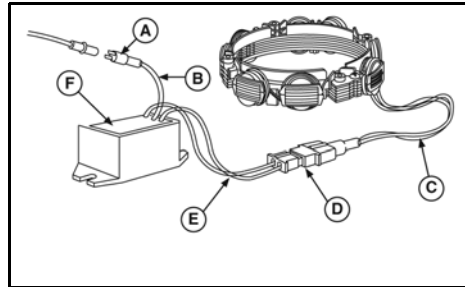

Figure 14
**7. 10/16 Amp DC (Figure 14)**
- Two black leads (C) from stator
- Yellow connector (D) with two pin terminals
- Two yellow leads (E) to regulator-rectifier (F)
- One red lead (B) from regulator-rectifier to red connector output lead (A)